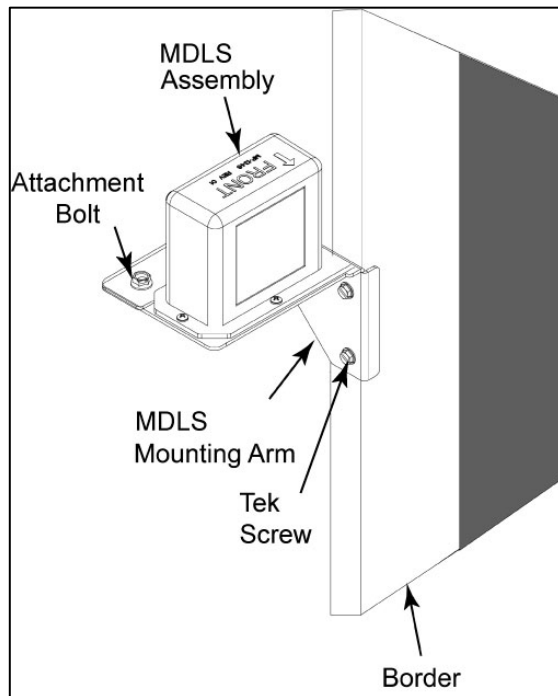
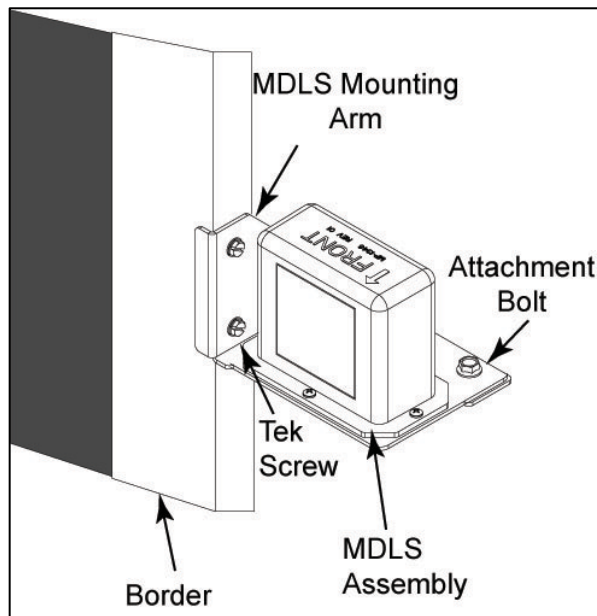

Figure 19: Left (from face) Multi-Direction Light Sensor Assembly
Figure 21: Right (from face) Multi-Direction Light Sensor Assembly
24. Using tek screws, secure the border over the section splice opening on each end of the display. Refer to **Figure 19**.
3. Loosen the attachment bolts that hold the MDLS assembly to the MDLS mounting arm. Refer to **Figure 19**, **Figure 20**, **Figure 21**, and **Figure 22**.